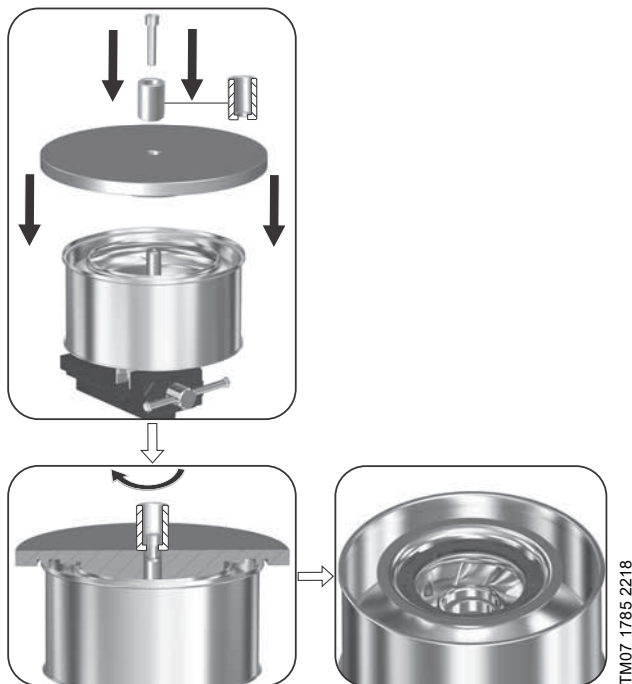

Fig. 33 Neck ring, neck-ring retainer and chamber positioned in service tool L.
5. Place the chamber (4 or 4a) or inlet part (44) over the neck ring (45) and neck-ring retainer (65). See fig. 33 and 34.
6. Place the top plate of service tool L on top of the chamber or inlet part and align it so it fits. See fig. 33 and 34.
7. Fit the distance-pipe piece and screw on the top plate of service tool L. See fig. 33 and 34.